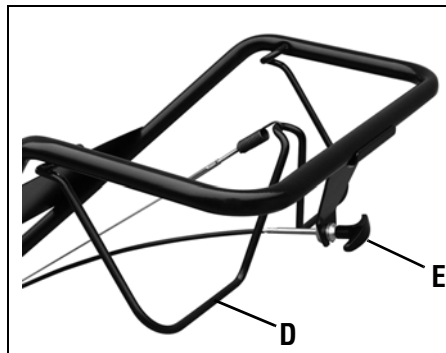

Figure 3-4: All models have a Forward Clutch Bail (E). Only Model 634A have a Reverse Clutch Control (F).
The Forward Clutch Bail (D, Figure 3-4) controls the engagement of forward drive to the wheels and tines.
2. Lift and hold the clutch bail (D, Figure 3-4) against the handlebar to start the wheels and tines rotating in a forward direction.
The Reverse Clutch Control (E, Figure 3-4) controls the engagement of reverse drive to the wheels and tines. **The reversing feature is used for maneuvering the tiller only — never engage the tines in the ground while operating in reverse.**
3. Lift the handlebar until the tines clear the ground, look behind to avoid any obstacles, and then pull the control knob (E, Figure 3-4) out. The wheels and tines will rotate in a reverse direction.